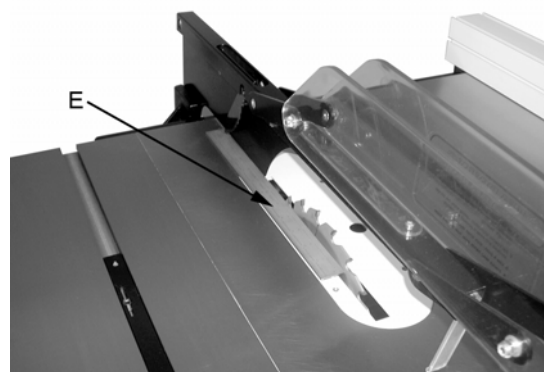

Figure 37
1. Use a straight edge (E, Fig. 37) to align the splitter with the saw blade. Be sure the straight edge rests against the body of the saw blade and not the saw teeth.